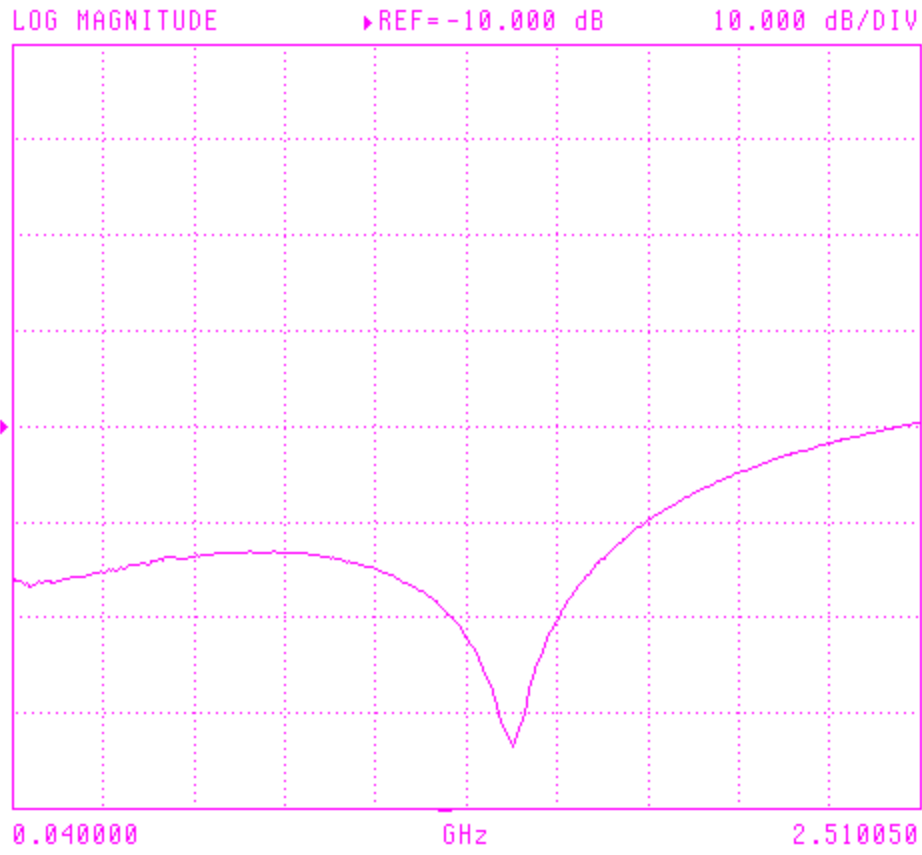

Figure 7
- Figure 7 : Return Loss Active Port
Active Port Return Loss	Fig. 7